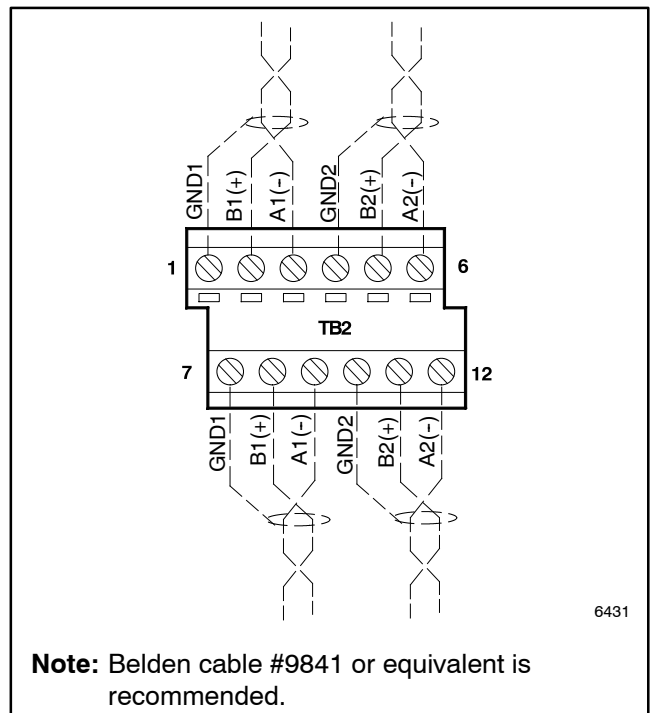

Figure 12-3 RS-485 Connections
- b. Use #12–24 AWG twisted-pair shielded cable; Belden cable #9841 or equivalent is recommended. Connect the Modbus® input and output to terminal strip TB2. See Figure 12-3. Connect A to negative (-), B to positive (+), and the shield to ground as shown in Figure 12-3.